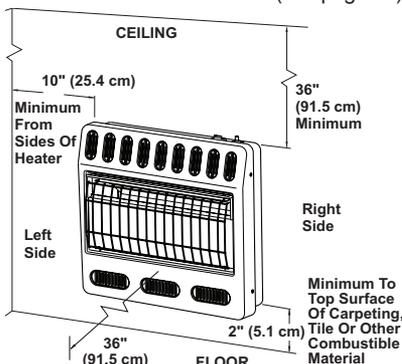

Figure 4 - Mounting Clearances As Viewed From Front of Heater
**⚠ WARNING: Maintain the minimum clearances shown in Figure 4. If you can, provide greater clearances from floor, ceiling and joining wall.**